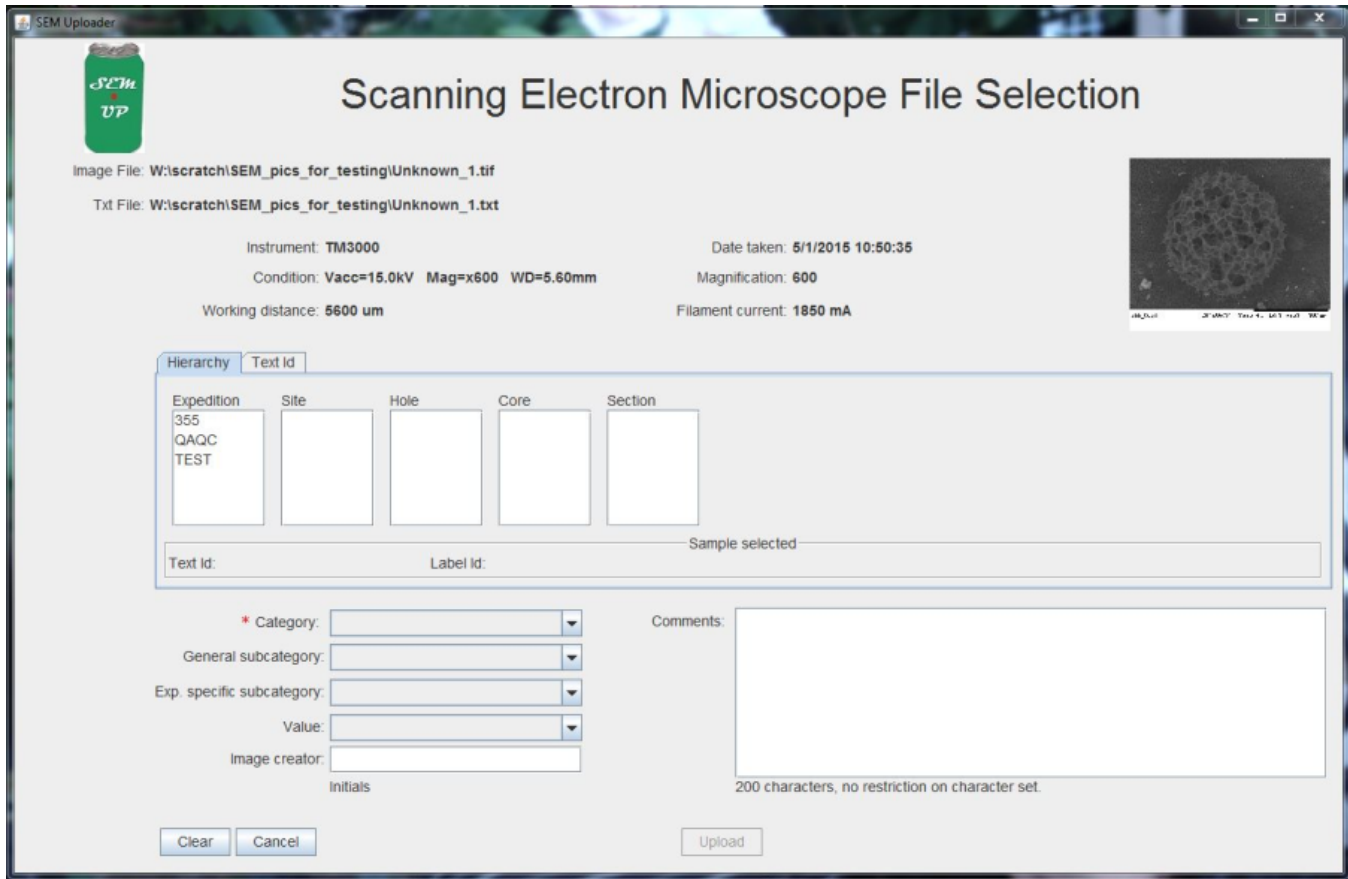

Figure 4. The SEM Uploader window is the place to assign the sample to the picture as well as additional information about the specimen seen in the image.
2. The second window of the SEM uploader will show the image file and metadata text file path on the PC, as well as some of the metadata that was retrieved from it (instrument, condition, working distance, date taken, magnification, filament current). It is designed to associate the sample with the image. There are two ways of assigning the sample – **Hierarchy** search or **Text ID** search (Figure 4).